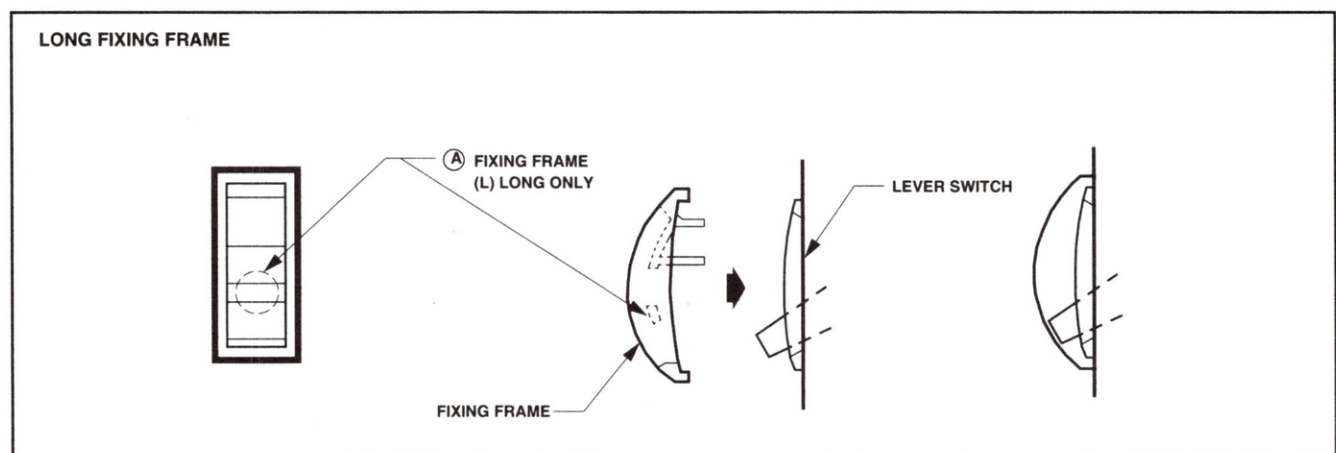

Figure 1
2. Position fixing frame as shown in Figure 1. Set fixing frame into lever switch.
* To restrict a 3-position switch to 2 positions only, remove area A of fixing frame (L) as shown in Figure 1.